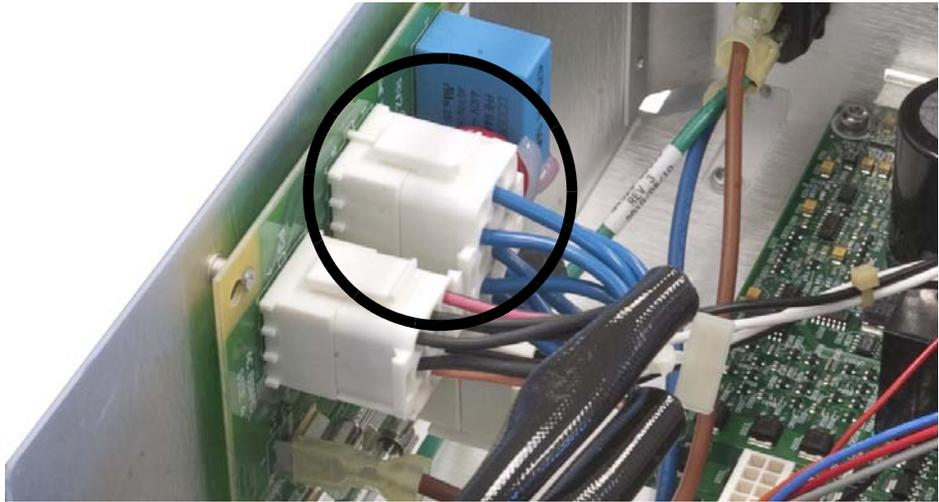

Figure 2 Installing the configuration plug
- 3 Install the supplied configuration plug (Figure 2).